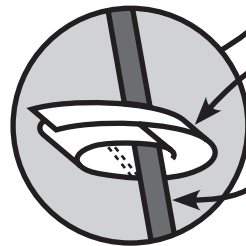

Fig. 10
- Secure rainfly with straps located on the underside of rainfly. (Fig. 10)